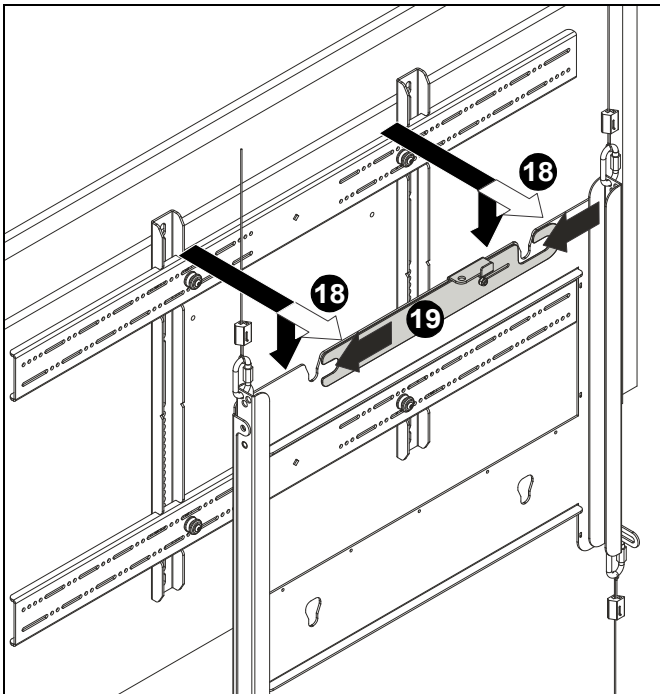

Figure 8
20. Lift display onto mount, carefully placing mounting buttons into mounting locations on faceplate. (See Figure 8)
21. Slide locking plate over mounting buttons to secure display to mount. (See Figure 8)